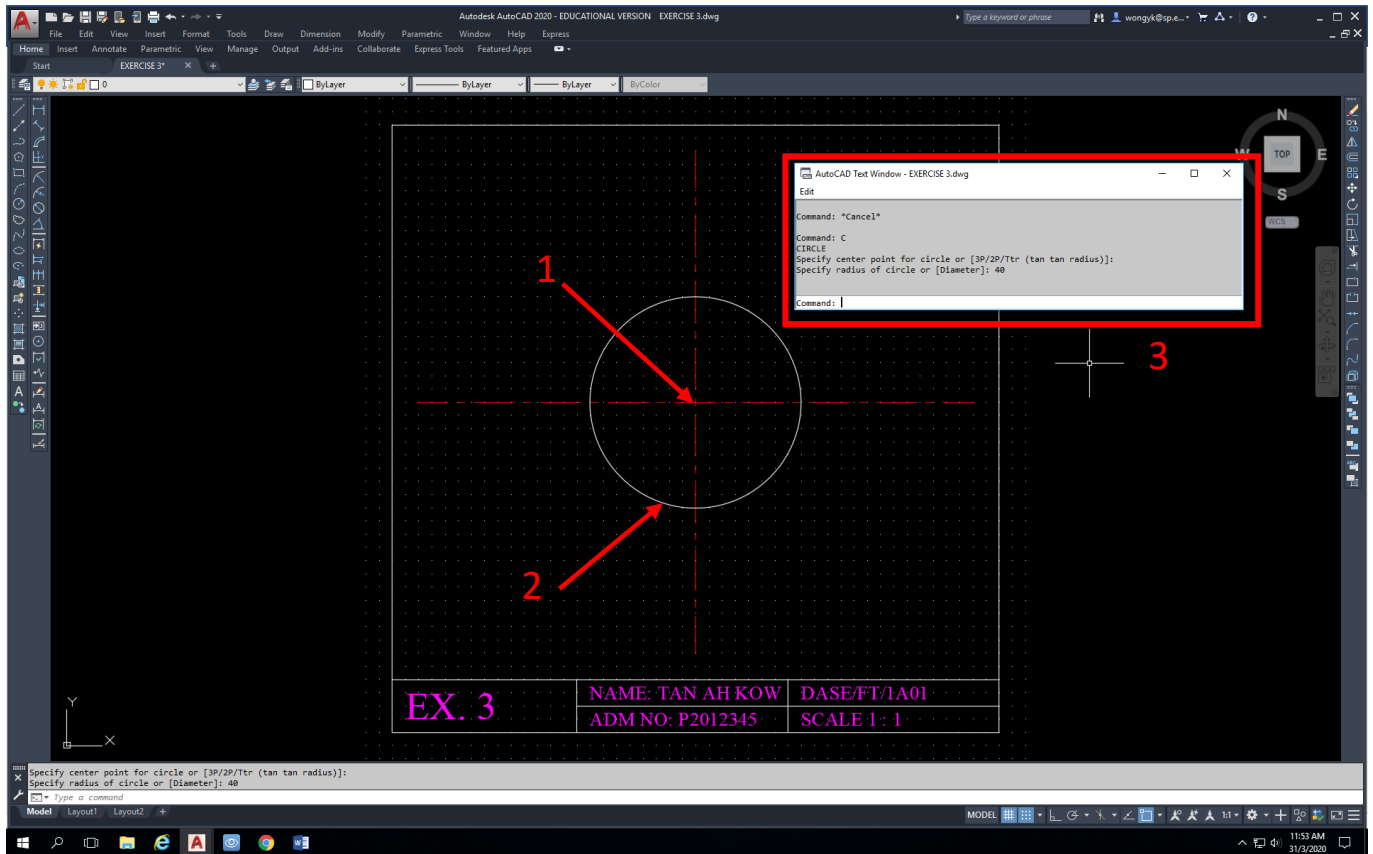

Fig 20
- iii. Specify Center point for circle = **Click the centre lines intersection point (1)**
- iv. Specify Radius of circle, type = **40 (2)**
- v. Fig 20 shows the steps to draw the circle of radius 40mm **(3)**.